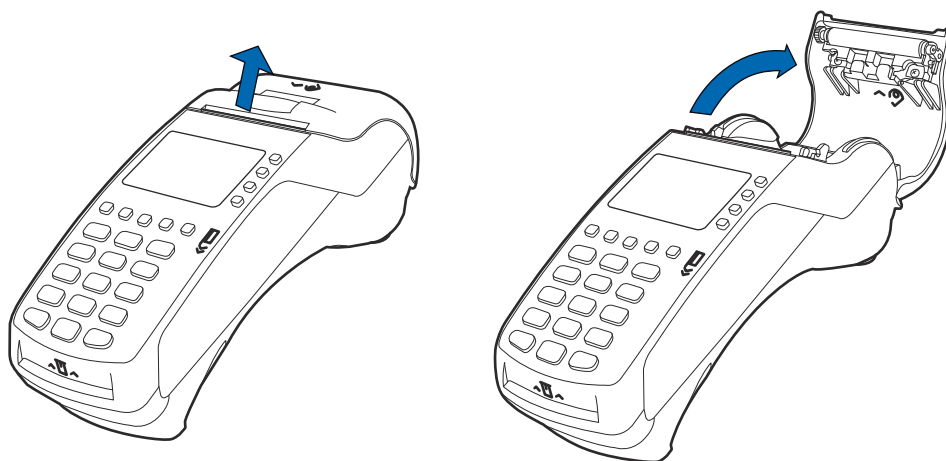

Figure 14 Opening the Printer Cover
- 1 Hook your finger under the latch and lift up to swing the paper roll cover open (see Figure 14).